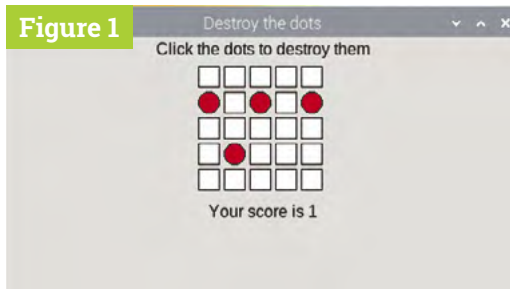

Figure 1
In this game, you need to destroy the dots before they destroy you! The board consists of a grid of squares. The squares will gradually turn into dots. To destroy a dot, click on the dot and it will turn back into a square. The aim of the game is to last as long as possible before being overrun by dots (Figure 1).
► Figure 1 Destroy the red dots before they take over the board